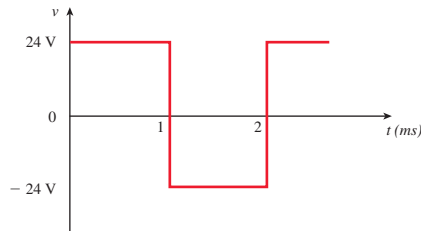

FIGURE 15-96
61. Determine the rms value of the waveform of Figure 15-96. Why is it the same as that of a 24-V battery?